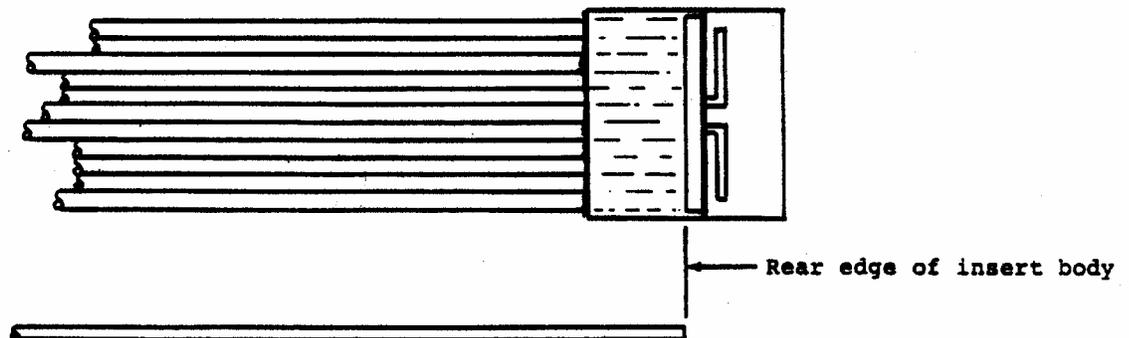

Figure 5-1. Length Determination for Round Wires
1. Cut wires to the length required (Figure 5-1).